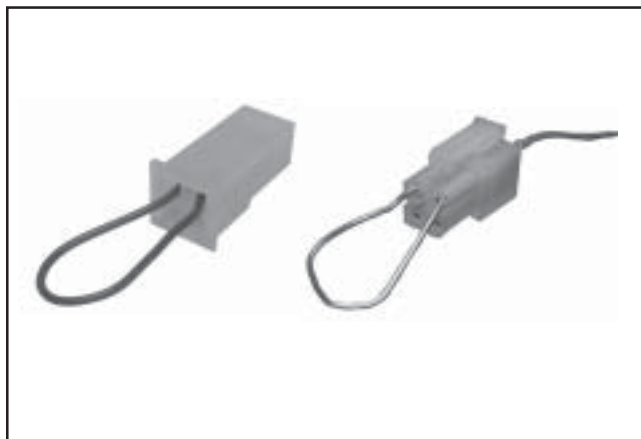

Figure 5B-7. Service Connector Plug, Plastic Cased ECU Harness.
7. Locate the service connector plug in the wiring harness. Connect a jumper wire from the TPS initialization pin #24 (violet wire) to the battery voltage pin (red wire), or use the jumper connector plug with the blue jumper wire. See Figure 5B-7.